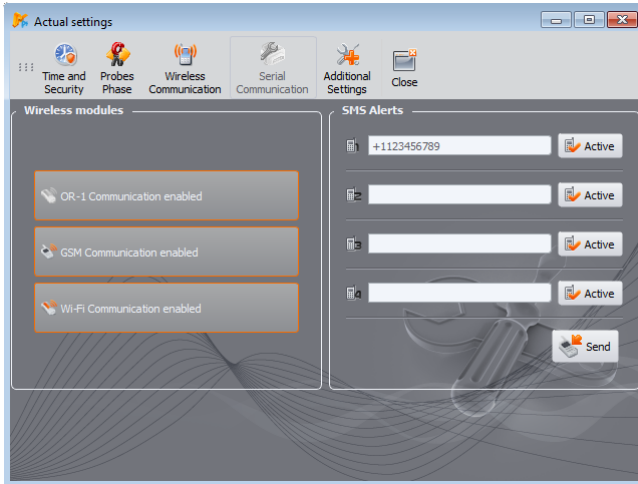

Fig. 37. Analyzer settings – Wireless connection.
**WIRELESS CONNECTION** (Fig. 37) includes the following elements: